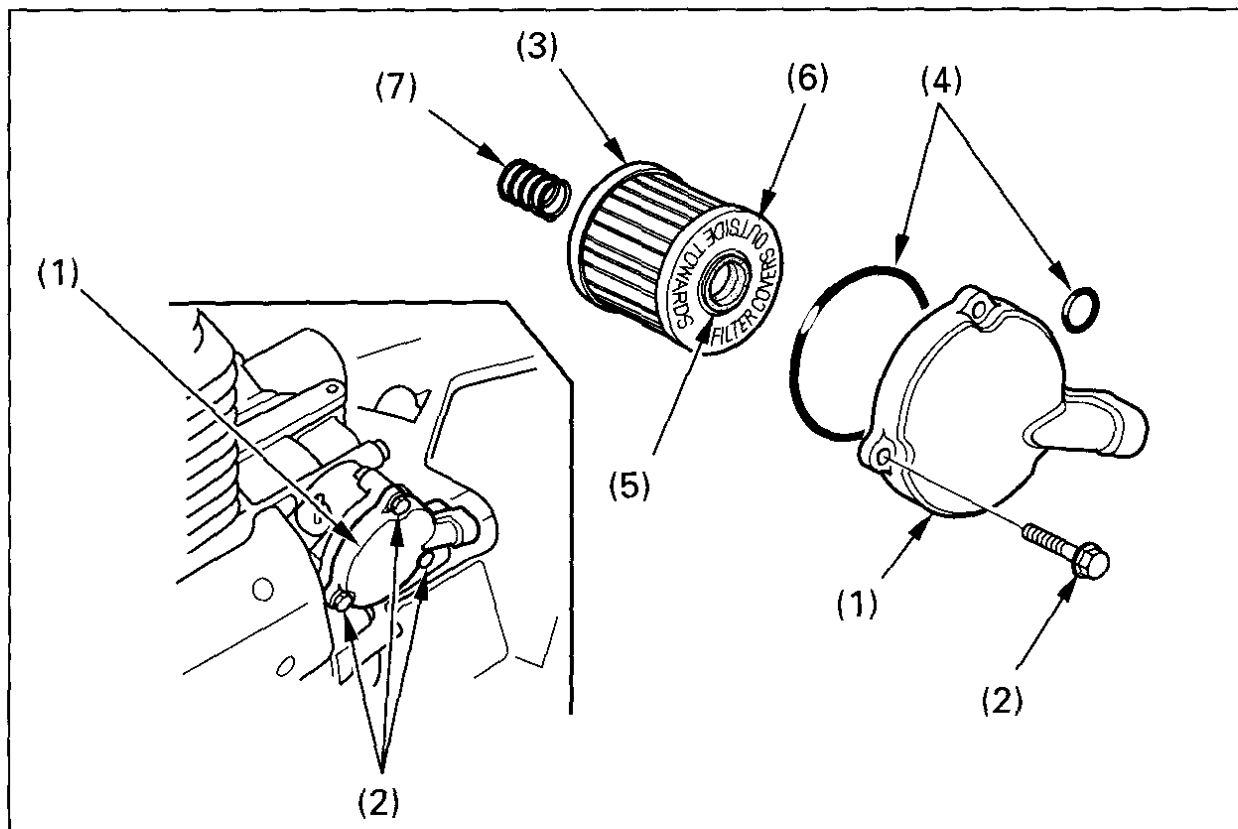

Fig. 4-13 (1) Oil filter cover
(1) Oil filler cap
(2) Oil drain plug
3. Remove the oil filter cover (1) (Fig. 4-13) by removing the bolts (2). Let the remaining oil drain out. Discard the oil filter (3).
4. Check that the oil filter cover O-rings (4) are in good condition and then install a new oil filter. Use only the Honda genuine oil filter or a filter of equivalent quality specified for your model. Using the wrong Honda filter or a non-Honda filter which is not of equivalent quality may cause engine damage.
5. Install the filter with the rubber seal (5) facing out, away from the engine. You will see the "OUTSIDE (TOWARDS FILTER COVER)" mark (6) on the filter body, near the seal.